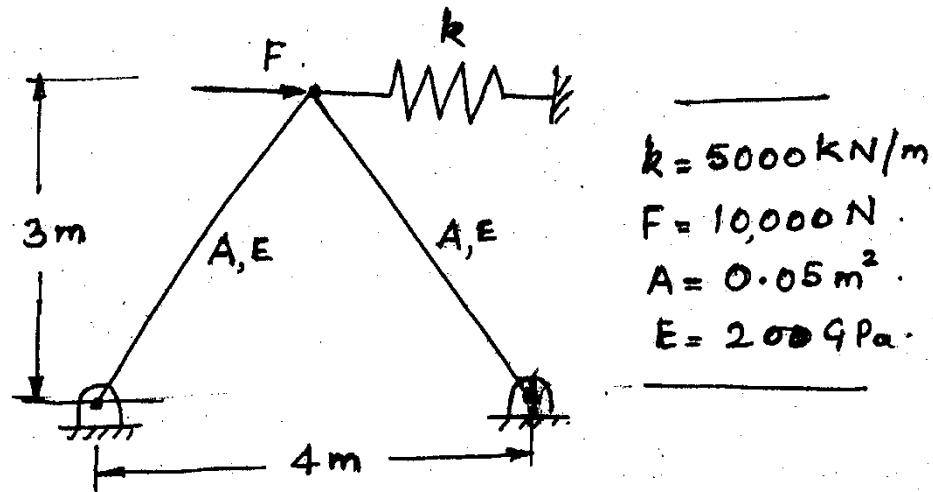

Fig. Q. 2b
2. a) Obtain the stiffness matrix of a beam element in XY plane by Galerkin's Weighted Residual method. (05)
- b) Evaluate the unknown displacements and element stresses for the plane truss shown in **Fig. Q. 2b** (05)